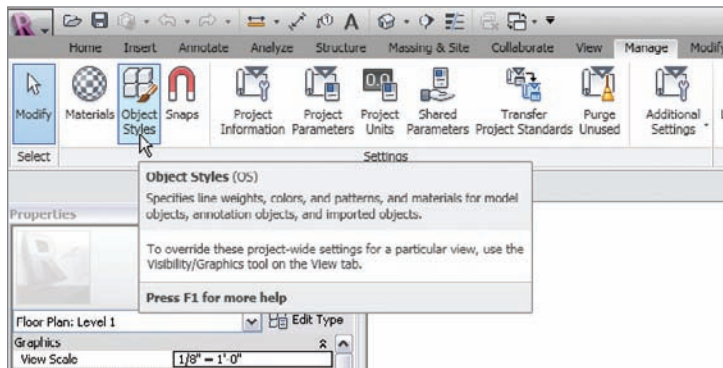

FIGURE 23.5 Selecting Object Styles
2. Click the Object Styles button as shown in Figure 23.5.